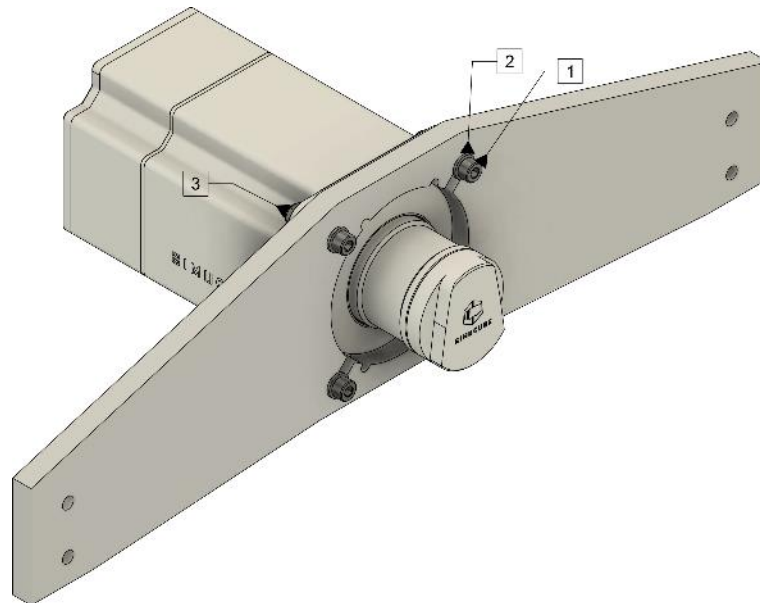

Figure 4 Mounting Simucube 2 on a simulator rig front mount bracket.
Simucube 2 can be mounted by utilizing a front mount bracket found on many simulator rigs as shown in Figure 4.
Mount Simucube 2 as shown in Figure 4. Sport and Pro models are mounted with 30mm M8 bolts with 1.25mm thread pitch (1) and M8 flat washers (2). Simucube 2 Ultimate is mounted through the motor flange with 40mm M8 bolts (1), M8 flat washers (2) and M8 locking nuts (3).